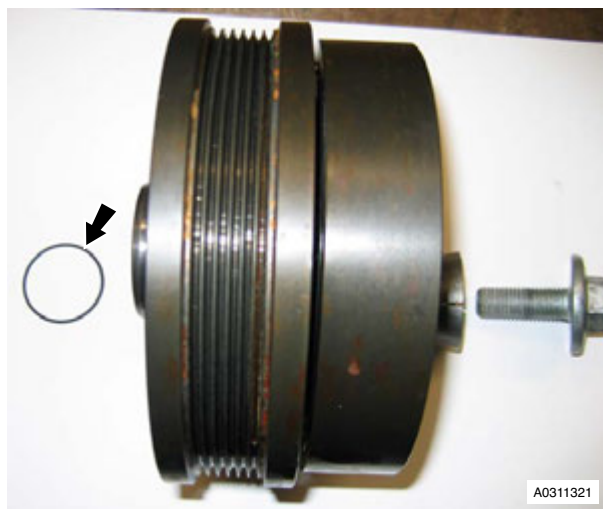

Figure 1
8. Remove and discard O-ring seal from pulley (see Figure 1).